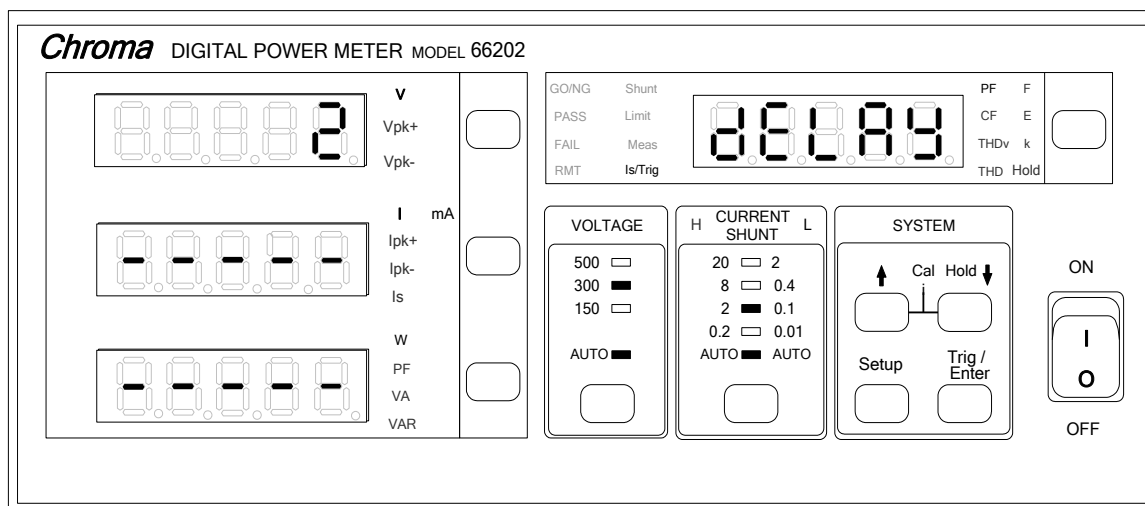

Figure 4-37 Setting Is/Trig
1. Press **Setup** to select Is/Trig and the indicator of Is/Trig is on. Figure 4-37 shows the setting of Is/Trig.